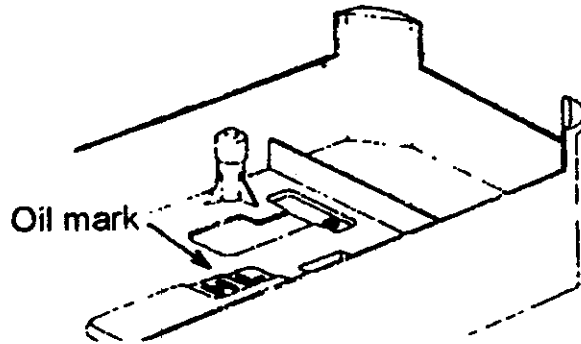
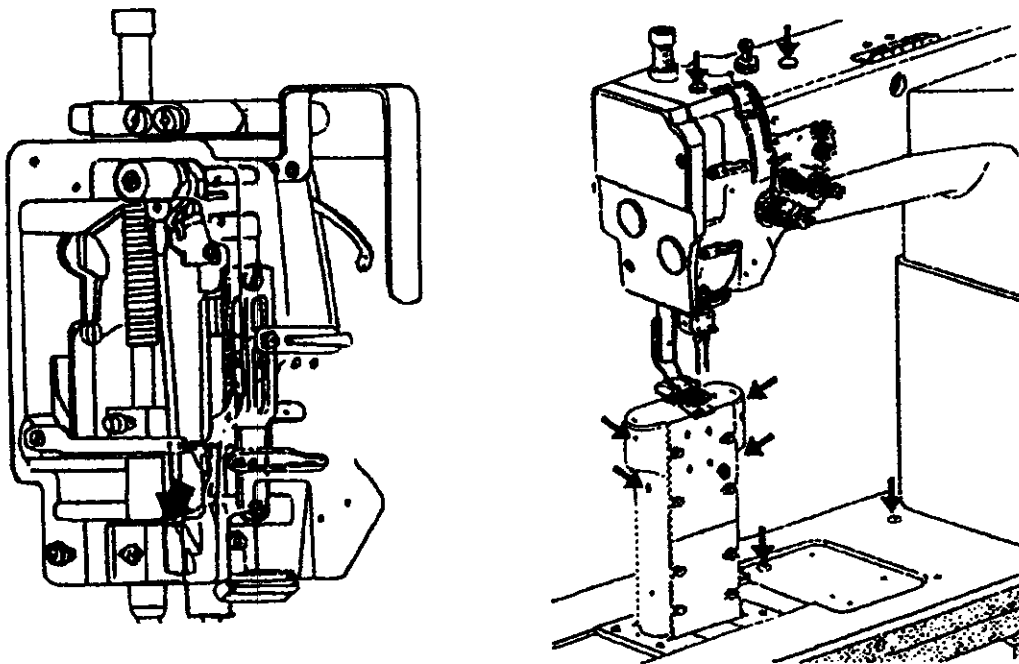
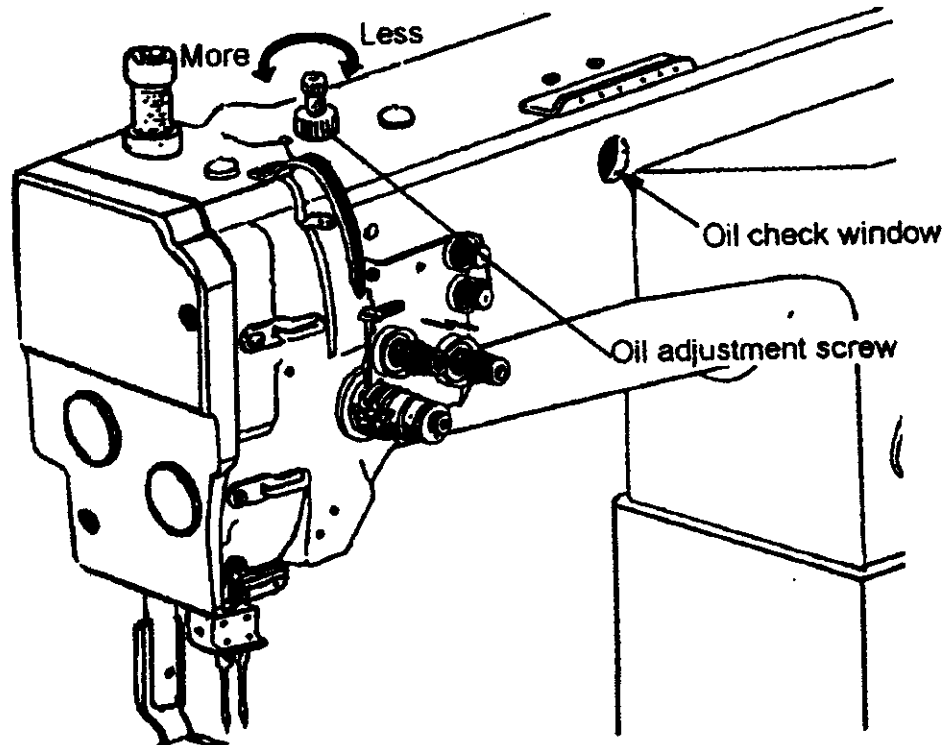

Fig.13
Fig. 14
Fig.15
## 17、 Lubrication (Fig.13、 Fig.14、 Fig.15):
- 1) Before starting operation, be sure to pour oil up to the position H of oil tank. If the oil below position L, replenish the oil supply up to position H. (Fig.13)
- 2) When a new sewing machine is first operated, or when a sewing machine which left out of use for a long period of time is operated, it will be necessary to oil through the oil holes after removing the rubber plugs shown below (the direction shown in arrows). (Fig. 14)
3) While operating the machine, check the condition of oil lubrication through the oil check window. The oil amount can be adjusted by oil adjustment screw. (Fig.15)